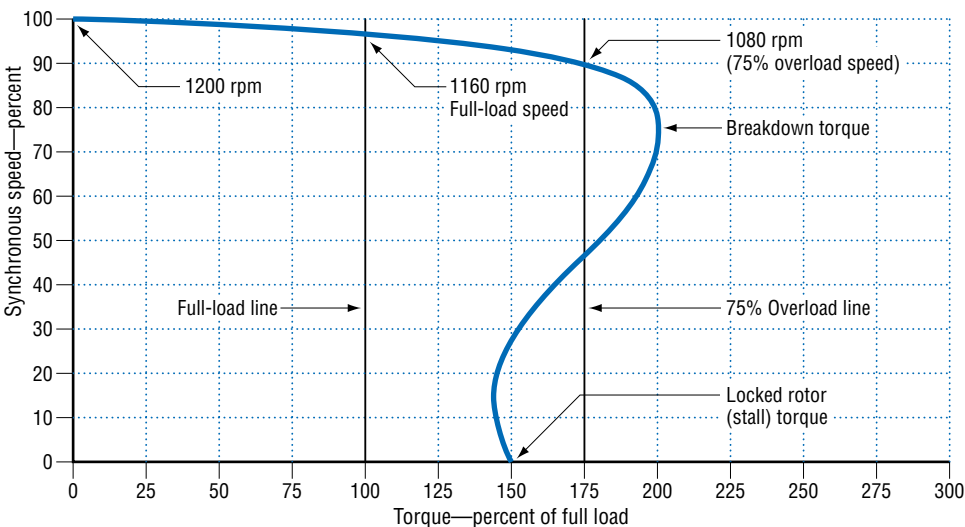

Figure 1. Motor overload effects, John M. Machelor.
**Motor Overloading:** As an induction motor's load is increased, its current (ampere) draw from the line supply increases proportionately. Motor losses that are dependent on current increase as the square of the current, causing an increase in the motor's temperature (heating). Concurrently, the motor's cooling capability is being reduced. For example, Figure 1 represents a typical speed-torque curve for a NEMA Design B, 6-pole induction motor. At full load (100% torque), the motor runs at a constant speed (1160 rpm in this example) and is designed so that its cooling capability can handle all of its full-load losses. Thus, the motor reaches a constant running temperature that does not exceed the rated temperature of its insulation system.
However, if the torque load on the motor is increased beyond full-load torque, the motor output torque will match the load torque (following the curve) but at an ever increasing penalty in losses and slower speed. As Figure 1 shows, when the load torque reaches 175% of full load, the motor speed has decreased to 1080 rpm. The motor output torque will continue to match load torque until the load torque equals/exceeds the motor's "breakdown" torque (knee of the curve). At this point, the motor's speed will rapidly decrease to zero and the motor will "lock" (stall). Current draw will increase to six to eight times full-load current, resulting in insulation failure in a matter of minutes.